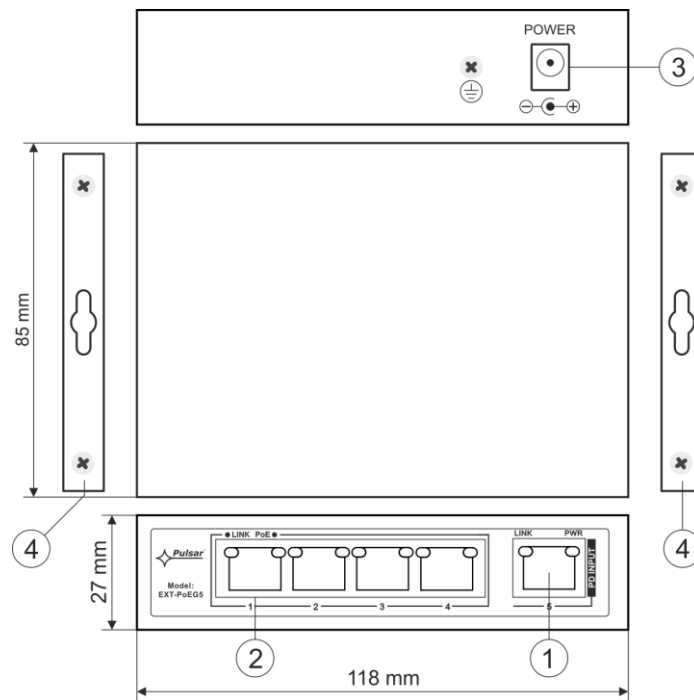

Fig. 2. View of extender.
**Table 1. (see Fig.2)**
Element no. [Fig. 2]	Description